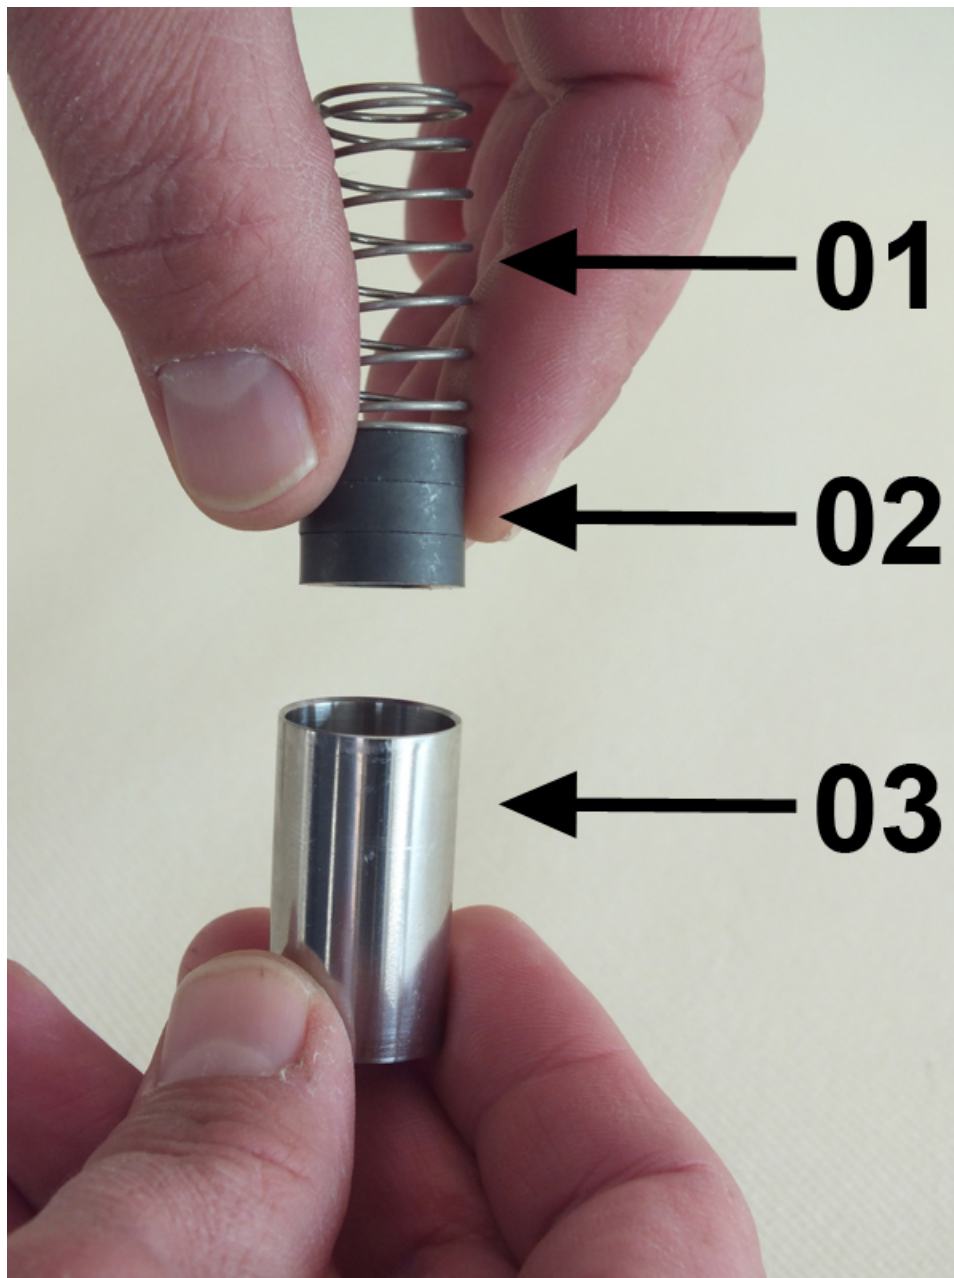

Fig. 43: Inner parts
4. ➤ Insert the spring (Fig. 43/01) and magnets (Fig. 43/02) into the float (Fig. 43/03) observing the magnetic polarity (north pole toward the outlet side).